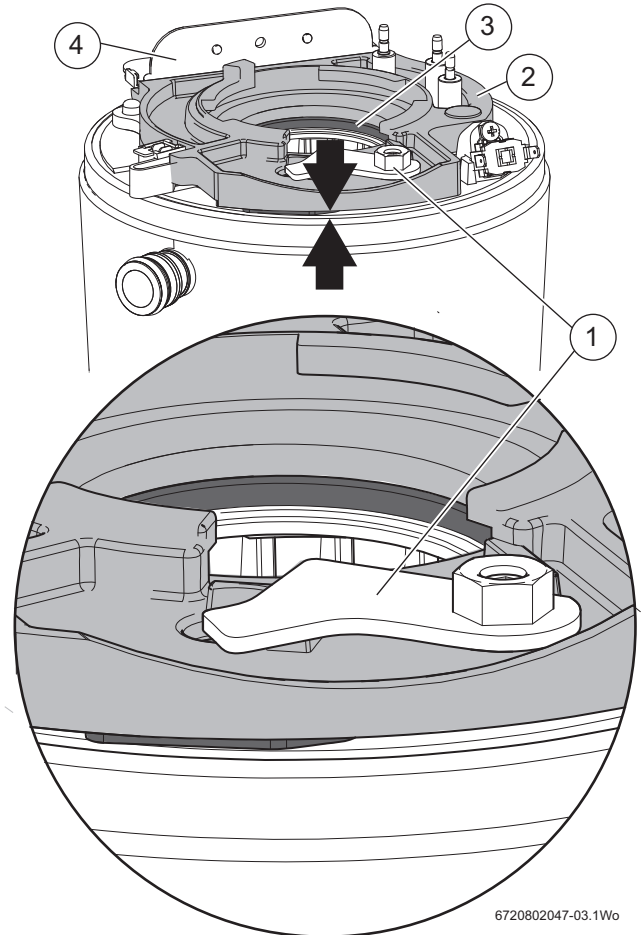

Fig. 81 Initial location of the clamping plate
- ▶ Ensure that the retaining plate [1] is in the position shown in figure 81
- ▶ Initially there will be a gap between the clamping plate and the top of the heat exchanger, refer to figure 81